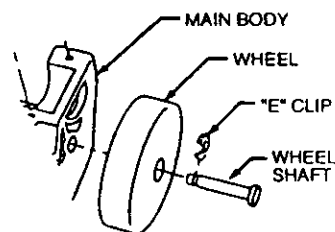

Fig. 29
1. Remove "E" clip and slide wheel shaft out of housing. (Fig. 29)